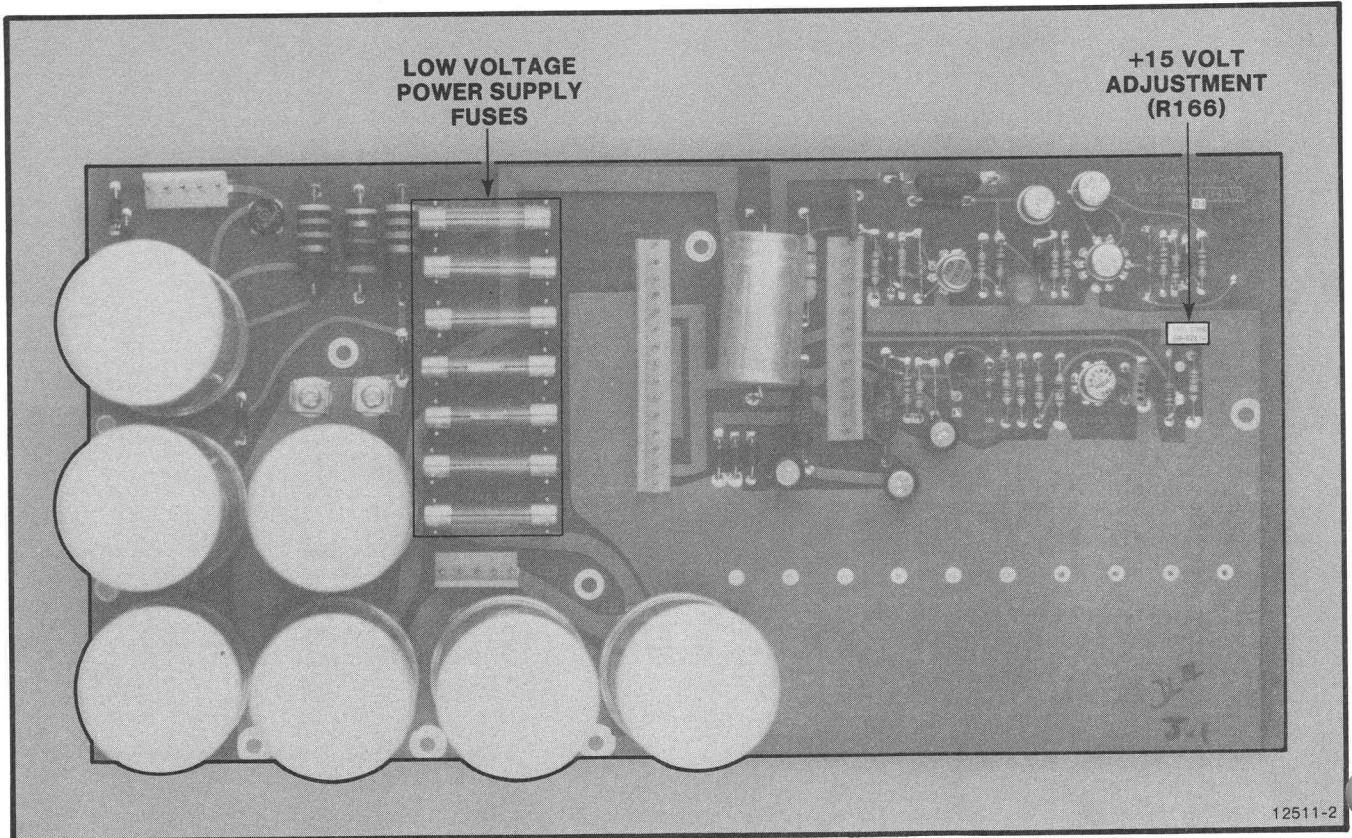

Figure 4-2. Low Voltage Power Supply Fuses and Adjustments.
11. **Perform** the following checks on the Low Voltage Power Supply (LVPS) board. Check the cables from the power supply to the Interconnect board for defects. Make sure that all wiring is fastened securely. Make sure that the line fuse is securely seated. Also, make sure that the following fuses have the correct ratings and are installed properly. The location of these fuses is shown in Figure 4-2.